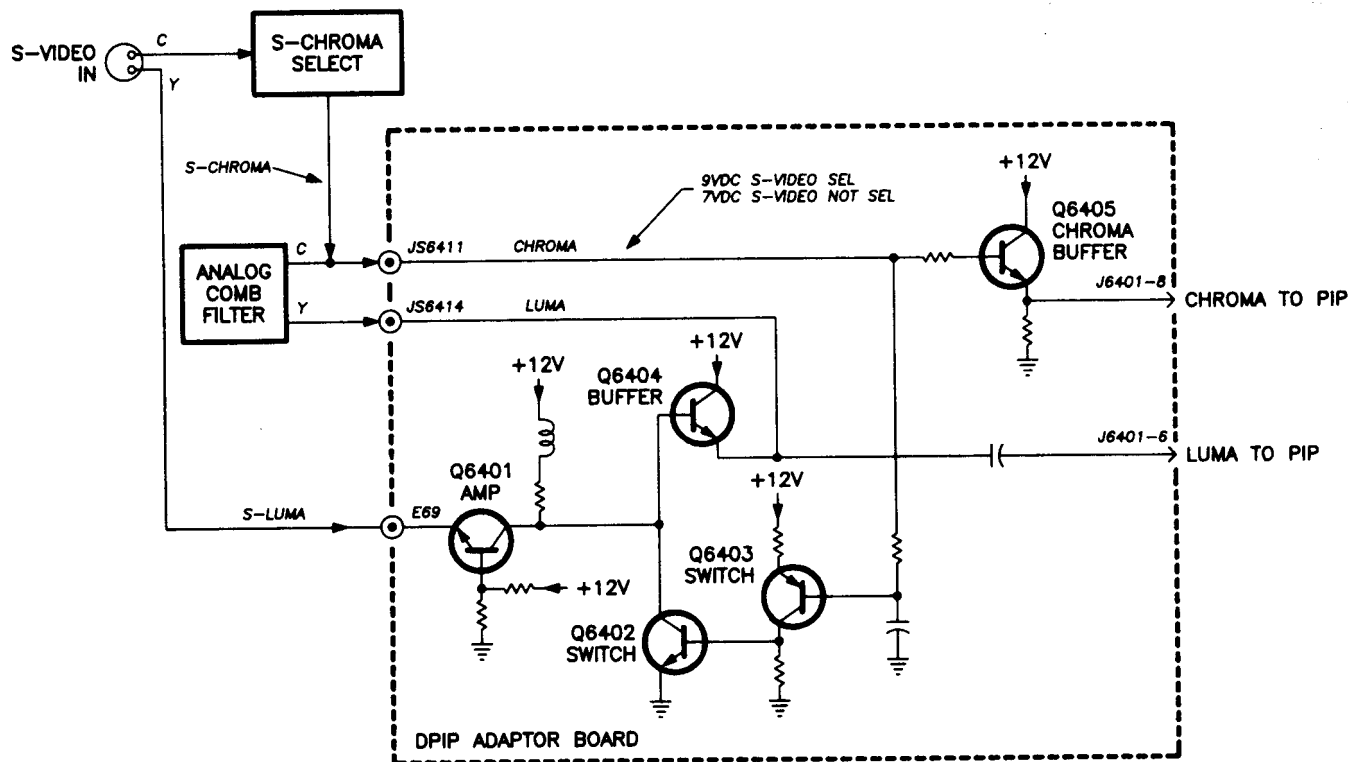

Figure 24, S-Luma Selection with Analog Comb and PIP
3. Trace chroma signal to buffer Q6405. Also check for DC offset on chroma line as shown in figure 24. Check operation of switch transistors Q6403 and Q6402. Check Luma Amp Q6401 and Buffer Q6404.